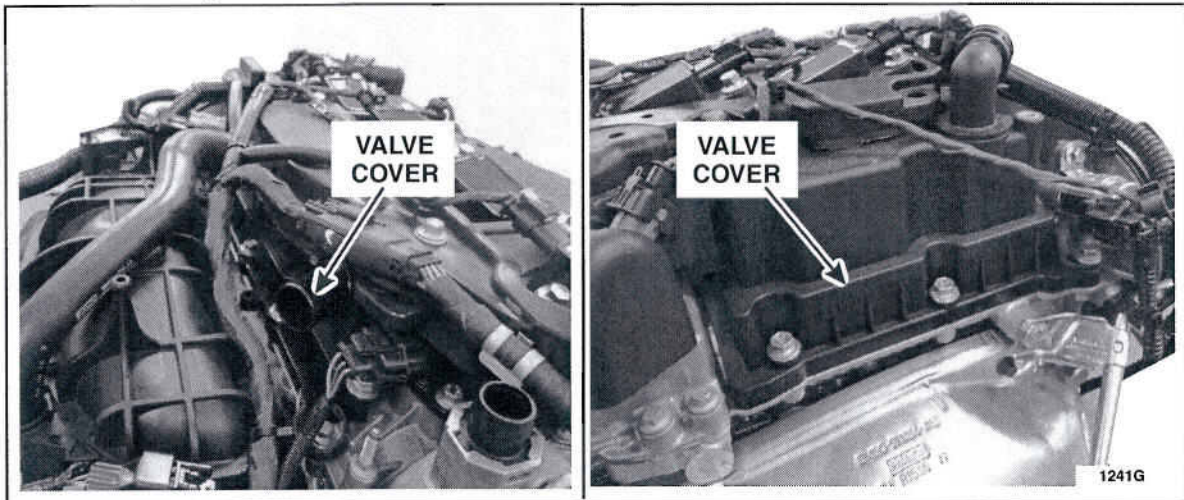

FIGURE 8
18. Inspect the area around the valve cover for oil leaks. See Figure 8.